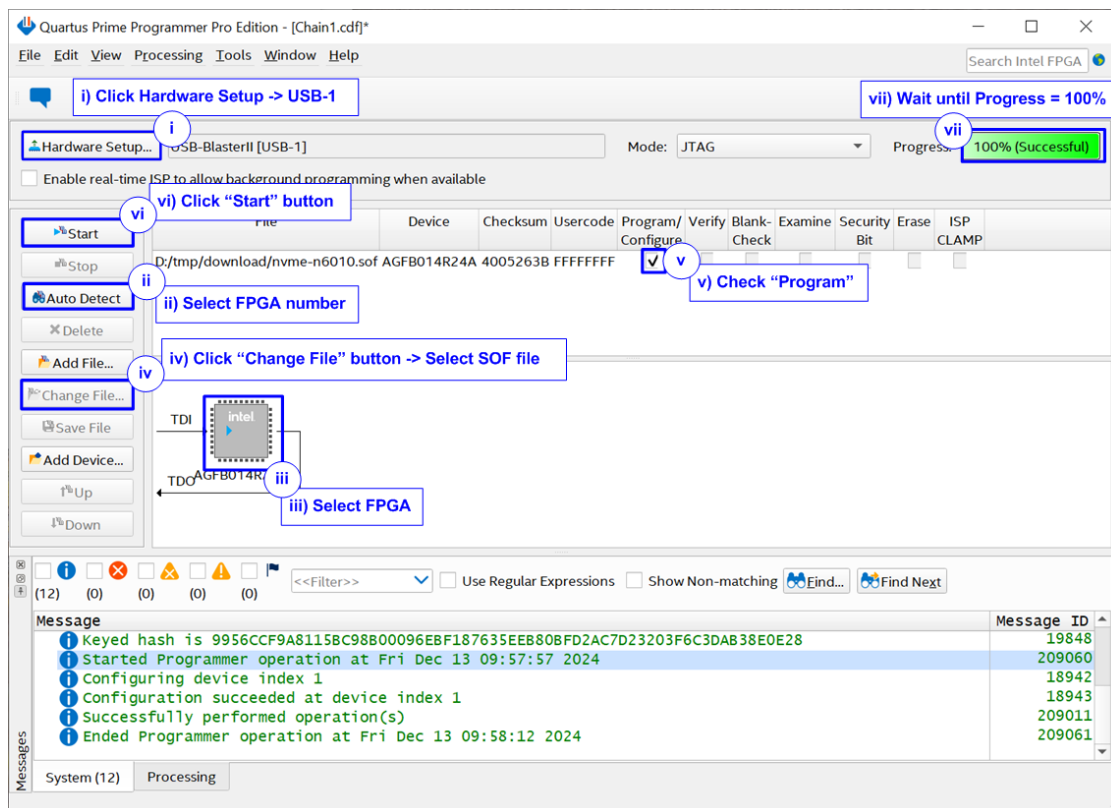

Figure 5 Program Accelerator Card by Quartus Programmer
- 5) Open the Quartus Prime Programmer and program the Accelerator card with the required SOF file as illustrated in Figure 5.